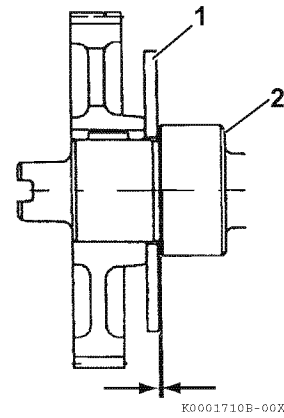

Figure 6-45
- **Method B:** Use a feeler gauge to measure the clearance between the thrust plate (Figure 6-45, (1)) and front camshaft bearing (Figure 6-45, (2)). Record the measurement. See *Thrust Bearing* on page 6-7 for the service limit.